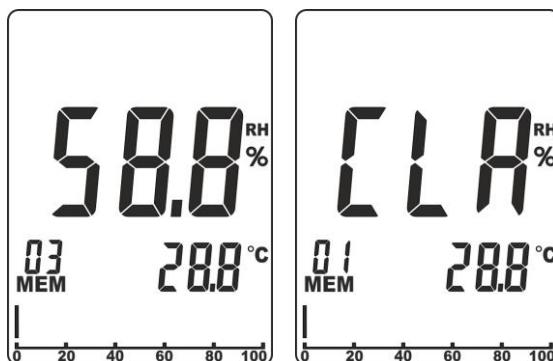

Fig. 4: Deleting the internal memory
1. Press keys **◀** and **▶** at the same time. The indication of the current memory location (see Fig. 4 – left side) flashes on the display.
2. Press and hold keys **◀** and **MEM/ALM** at the same time for at least 3s. The message "CLR" appears on the display and the memory location is automatically brought back to "01" (see Fig. 4 – right side).